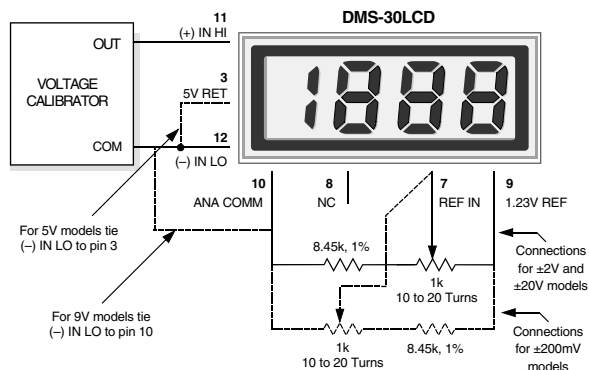

Figure 9. External Gain Adjustment
7. Gain Adjust: There is a gain-adjust potentiometer on the back of each meter. It has approximately ±50 counts (±2.5%) of adjustment range. Since these devices essentially have no zero/offset errors, a gain adjustment is effectively an overall accuracy adjustment. Though they may be performed at any point (except zero), accuracy adjustments are most effective when performed with higher level input signals. Refer to Figure 9 for applications requiring greater (±10%) gain adjustments.
- 7. External Gain Adjustment:** Connect REFERENCE OUT (pin 8) to REFERENCE IN (pin 7) for normal, factory calibrated, operation. Use the +1.23V REFERENCE OUT (pin 9) for applications needing external gain adjustment. Figure 9 shows the wiring configuration for each model. Calibration is performed with a precise, near-full-scale, input voltage.